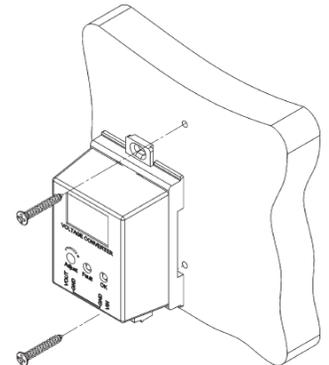

Figure 6: EZ-Mount Screwed to a Surface
- The edges of the EZ Mount base will fit into the board slots in 2.75 inch snap track. **Screwed to a Surface, Fig 6**
**Screwed to a Surface, Fig 6**